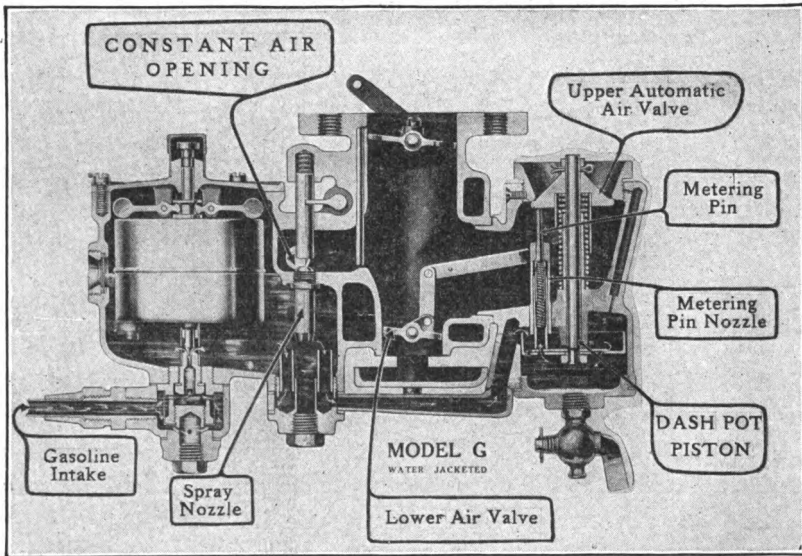

Fig. 102. Section of Rayfield Carburetor, Model "G"
**Rayfield Carburetor.** The Rayfield carburetor, Model "G", as shown in Fig. 102, is of the double-needle type, with three air-inlet openings and an eccentric float chamber. The latter is shown at the left, with fuel entering from below through a strainer. Communicating directly with this float chamber is the passage in which the low-speed nozzle (marked spray nozzle) is situated; this consists of a hollow member with the actual needle point coming down vertically